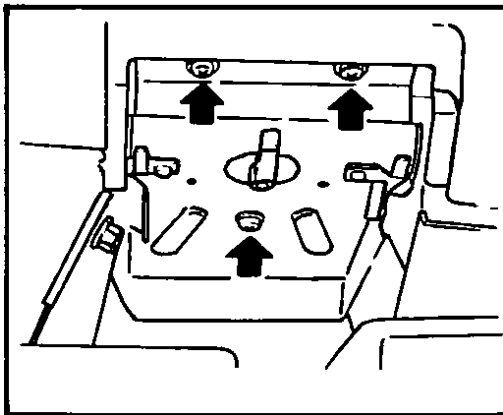

Fig 70 Removing ash tray cover – Model B210
- 3 Pull out the ash tray and remove it by loosening the three retaining screws, Fig 70